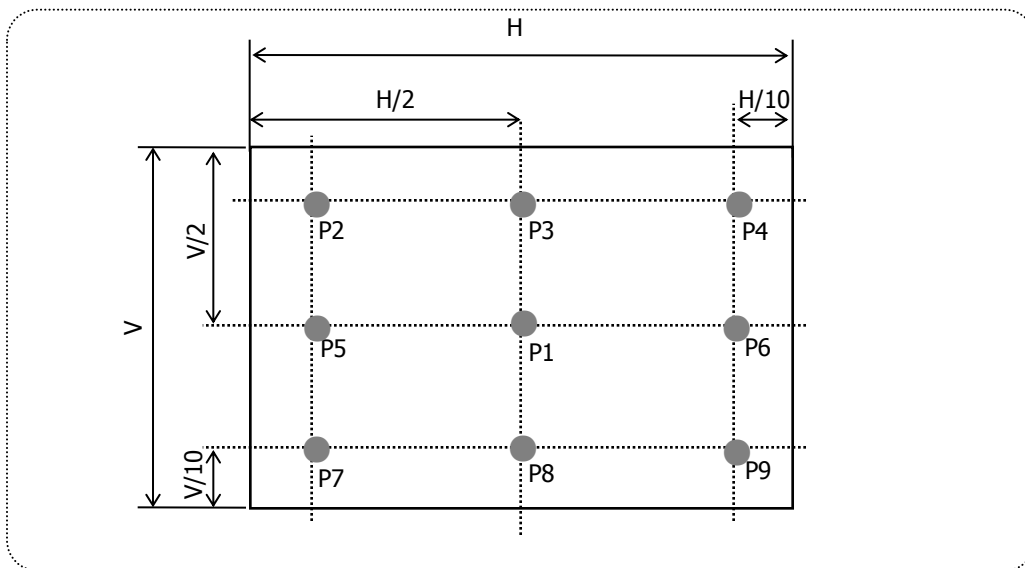

FIG.9 Measure Point for Luminance
2. Surface luminance(L_{WH}) is luminance value at Center 1 point(P1) across the LCD surface 50cm from the surface with all pixels displaying white. For more information see FIG.9 (By PR880)
For more information see FIG.9